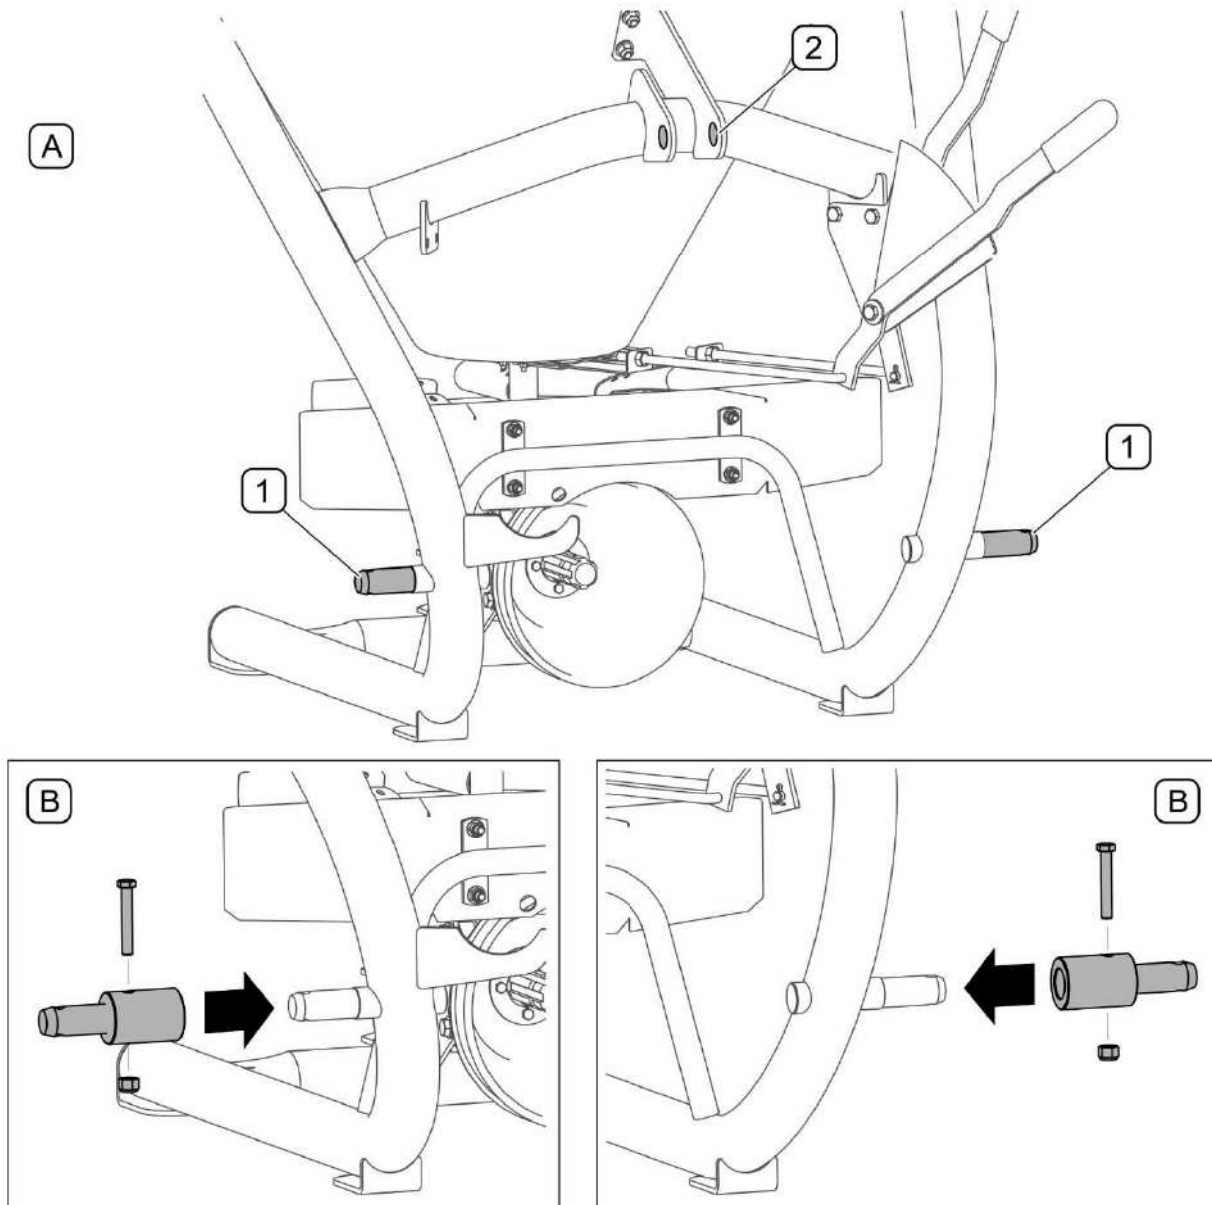

FIG. 4.1 Attachment points of three-point linkage Cat II according to ISO 730-1
The spacing of the spreader's mounting points (1) for the lower links of the tractor's three point linkage (FIG. 4.1) is 718 mm (*measured from the axis of the balls of the tractor's links*). In order to extend the spacing to full category II acc. to ISO 730-1 (*870 mm measured from the axis of the balls of the tractor's links*), two additional pins (see 1.3 EQUIPMENT) installed on the existing pins (1) of the machine must be used.
- Reverse the tractor so as to move the lower links of the tractor three-point linkage to the pins of the spreader linkage (FIG. 4.1).
- Connect lower pins (A) of the machine linkage with lower links of the tractor's three-point linkage and secure.